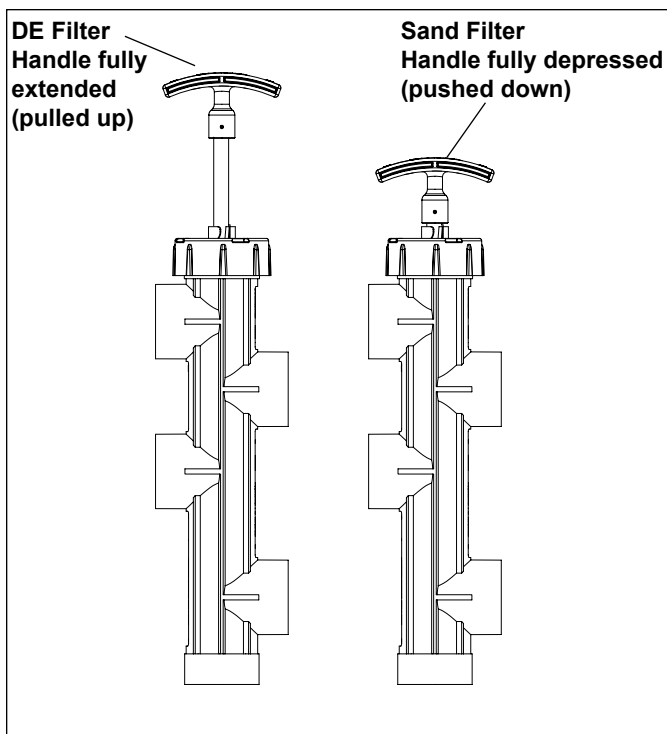

Figure 7. Handle Positions (SVLV2 shown)
3. (**DE Filters**) Ensure that the Slide Valve handle is fully extended (handle pulled all the way up). See Figure 7.
(DE Filters) Ensure that the Slide Valve handle is fully extended (handle pulled all the way up). See Figure 7.